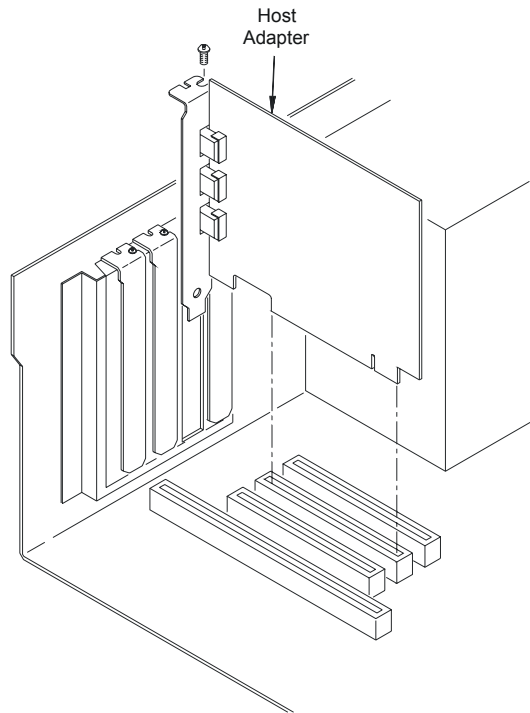

Figure 4-3
4. Align the bus contacts on the bottom of the host adapter with the PCI bus slot. Carefully, but firmly, press the adapter into the slot (Figure 4-3).